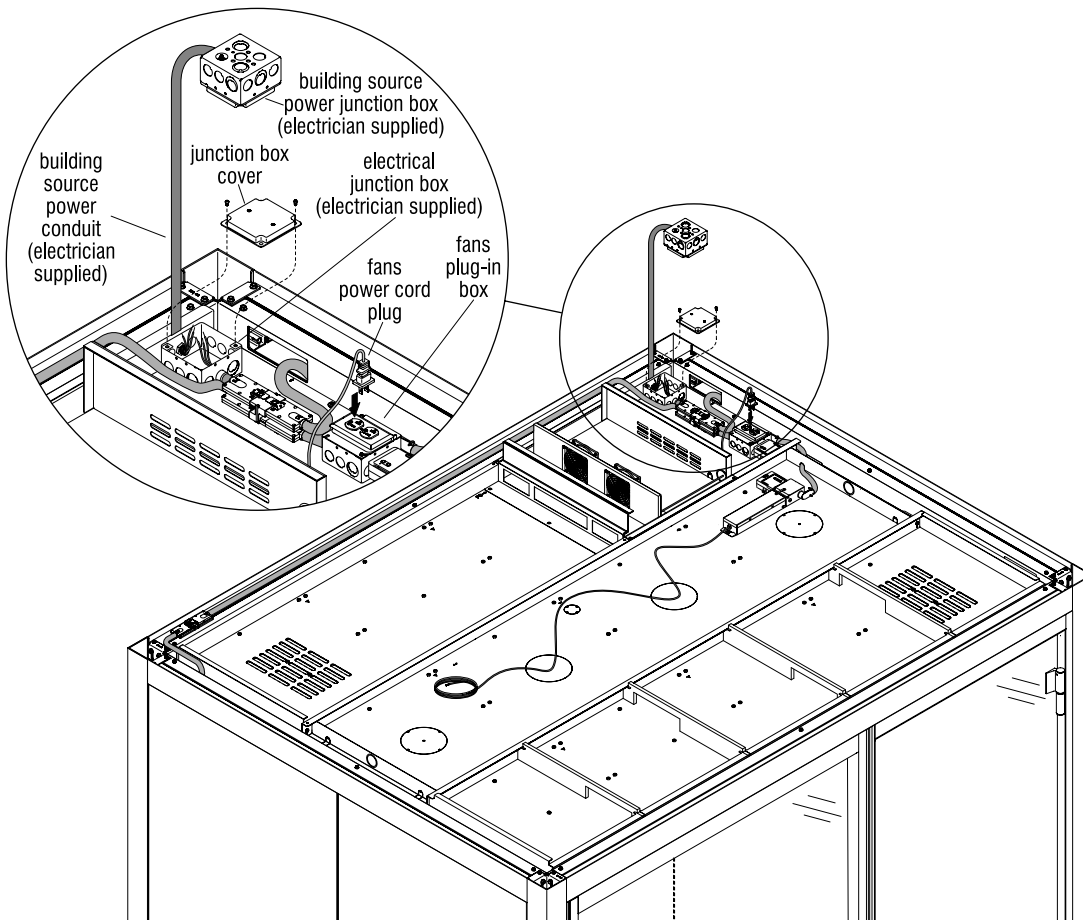

Figure 4
10. A certified electrician is to run wires and conduit from a building source power junction box, into the super structure's ceiling junction box, make wire connections and re-install the junction box cover as per all codes at the job site (Figure 4).
12. Plug the fans power cord into the fans plug-in box of the electrical control harness assembly as illustrated (Figure 4).